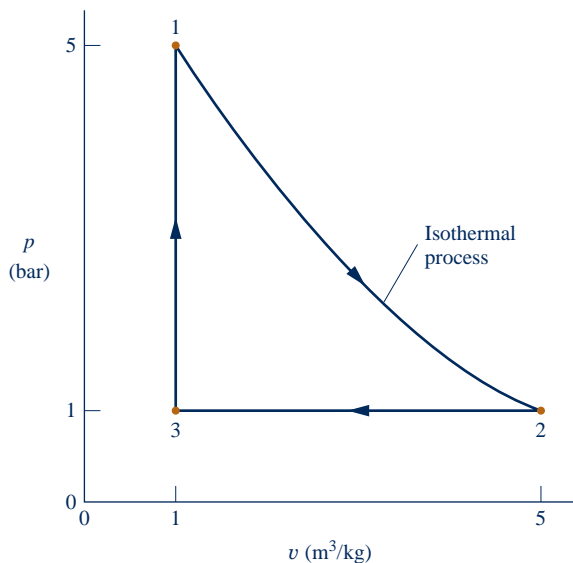

Fig. P3.140
3.140 Air contained in a piston-cylinder assembly undergoes the power cycle shown in Fig. P3.140. Assuming ideal gas behavior for the air, evaluate the thermal efficiency of the cycle.